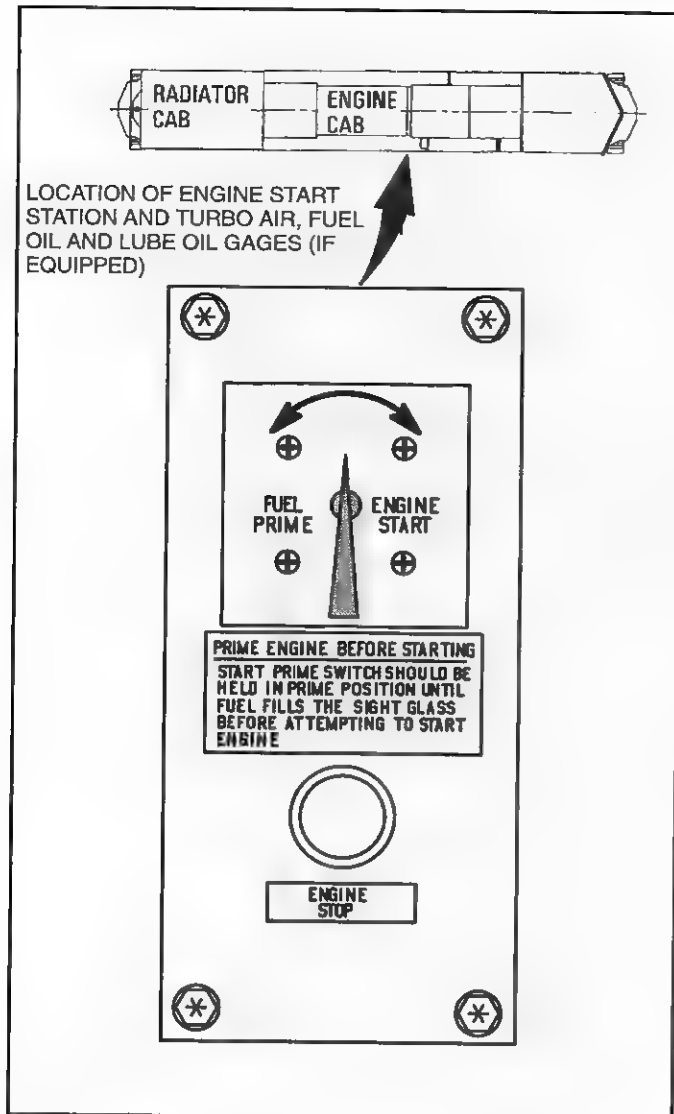
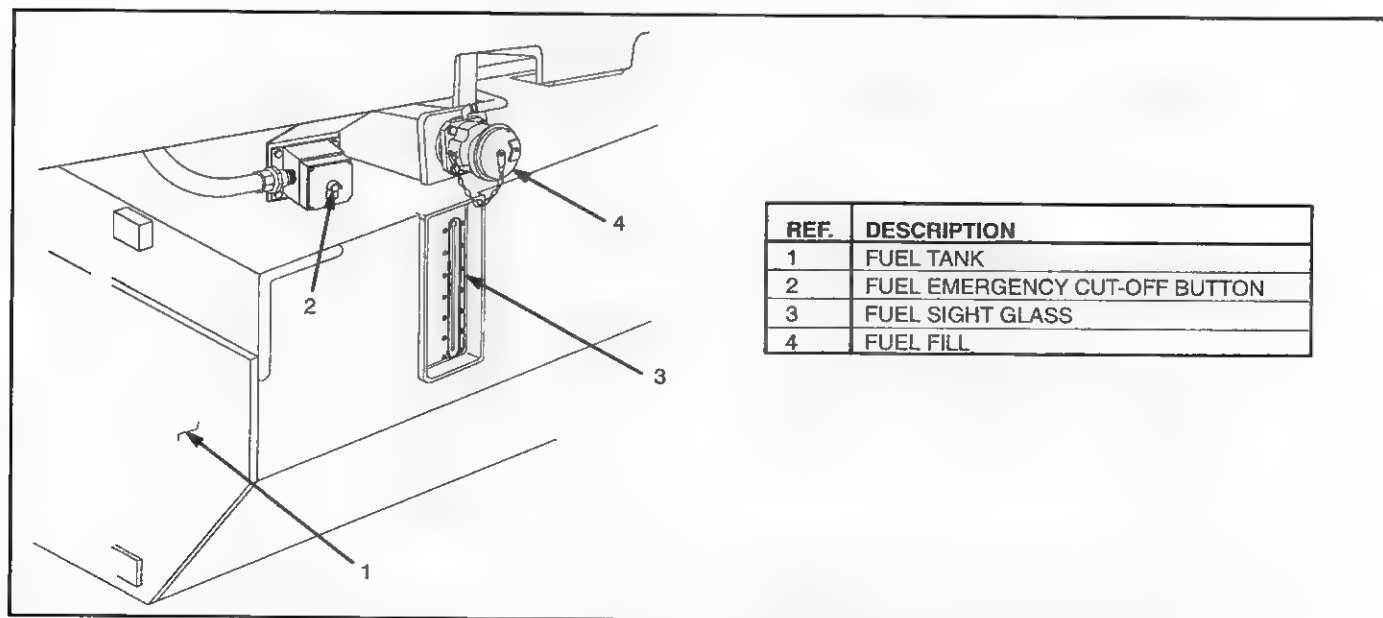

FIG. 28. ENGINE START STATION. E-39074.
FIG. 31. "B" SIDE OF FUEL TANK (TYPICAL). E-42151.
ENGINE START STATION AND START SWITCH (Fig. 28)
In an emergency, any one of four electric pushbuttons may be depressed momentarily to cut off fuel delivery to the engine. One of these pushbuttons is located on each side of the locomotive platform near the fuel tank (Item 2, Fig. 31). The third and fourth pushbuttons are located on the Engine Control (EC) panel (Item 7, Fig. 6) and at the Start Station (Fig. 28) and are normally used for cutting the fuel delivery to the engine.
3. Fuel–Oil Sight Glasses – Mounted on both sides of the main fuel tank (Fig. 31) to indicate the level of fuel in the tank.